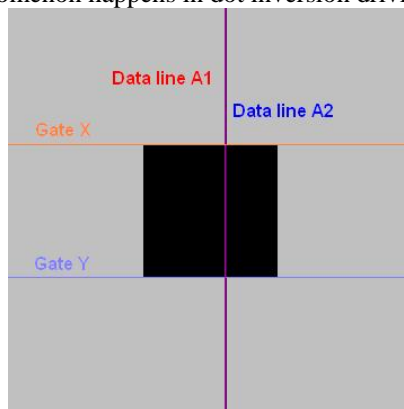
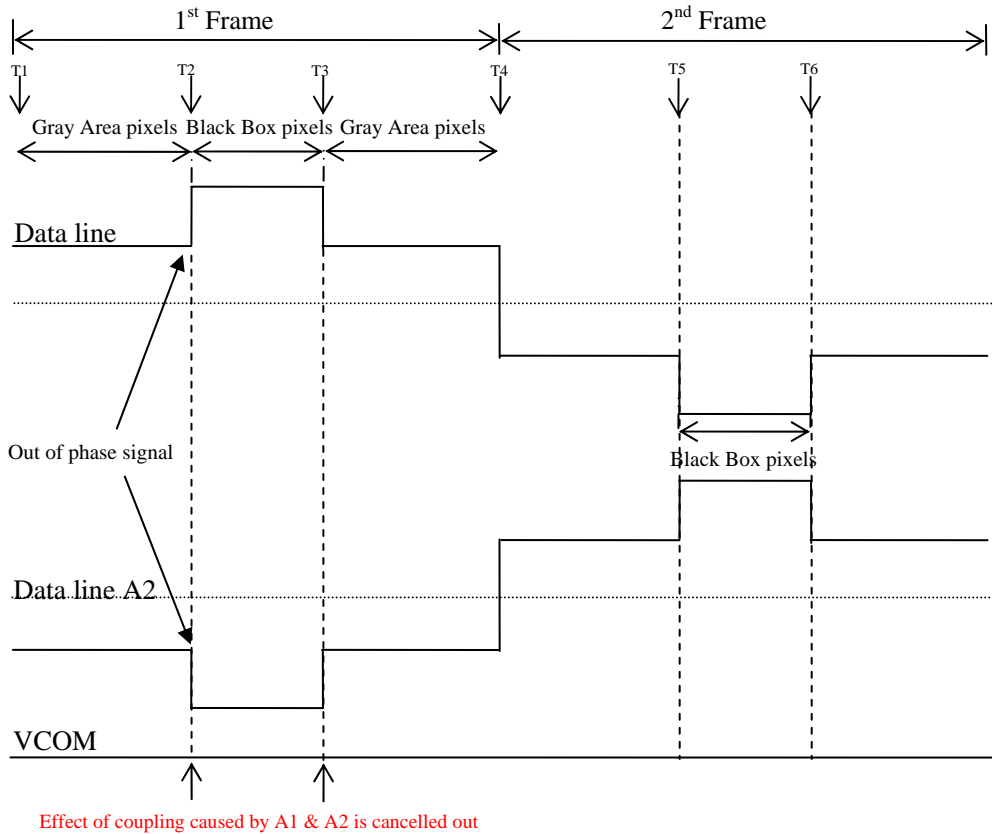

Fig 20. Location of Data line A1 & A2 in illustration of column inversion
Fig 21. Data line & VCOM waveform in column inversion
- In the future, SSL TFT drivers, which will support high resolution, will feature with DC VCOM with column & dot inversion. When every gate turns ON, there are always equal numbers of data lines (source) have positive & negative polarity. Capacitive coupling effect will be cancelled out each other. We use 1-line column inversion as an example. Data line A1 & A2 (location shown in fig 20) are data line which is adjacent to each other. In 1-line column inversion, adjacent data line (e.g. A1 & A2) have signal which is always out of phase with each other (provided that display content of these 2 lines is the same) as shown in fig 21. Capacitive coupling caused by these data line will then be cancelled out with each other. Similar phenomenon happens in dot inversion driving mode.